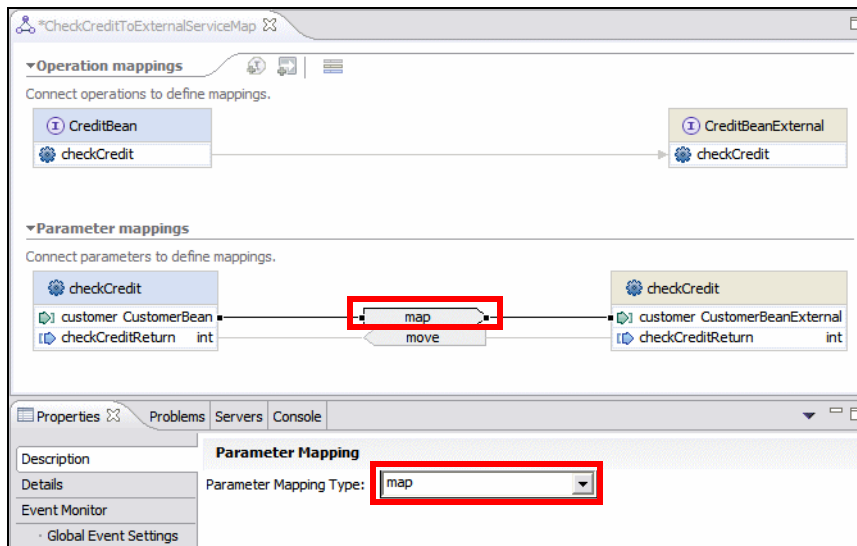

Figure 16-37 Defining the interface map
- ▶ Select the move operation on the customer to customer connection. In the Properties view, change the Parameter Mapping Type from move to map (Figure 16-37).